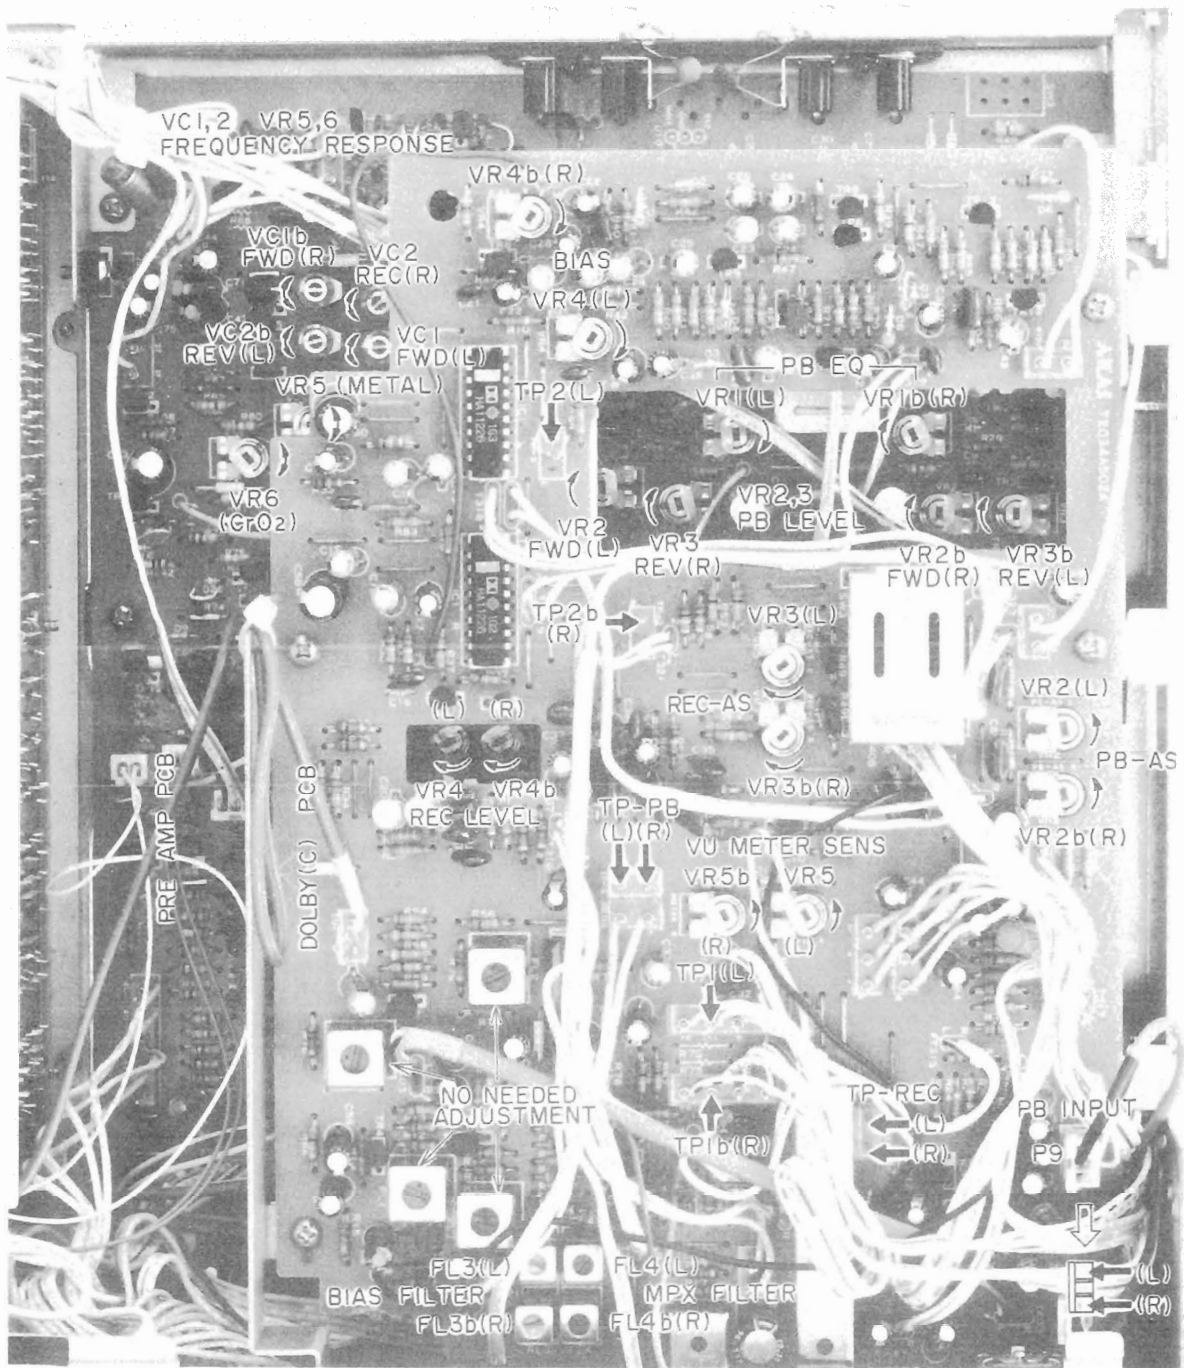

Fig. 7 Amplifier Adjustment
3. DOLBY ADJUSTMENT (Refer to Fig. 7 Dolby (C) PCB)